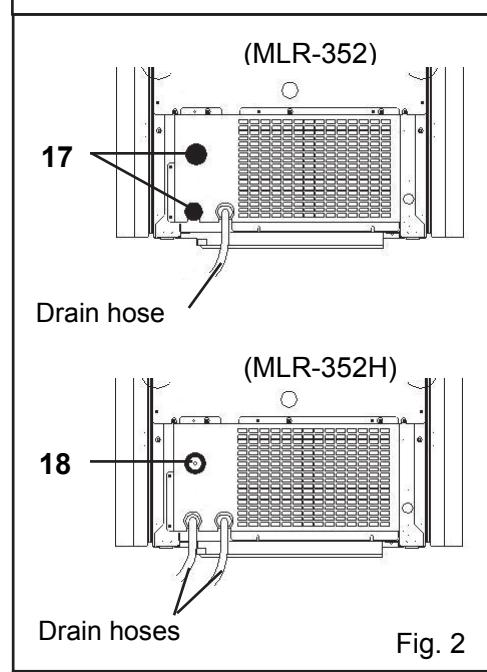

Fig. 2
17. Cap (MLR-352 only): Always keep this cap on (Fig. 2).
Two fixtures are attached to the rear of the frame. See Fig. 2. Fix the frame to the wall with these fixtures and rope or chain.